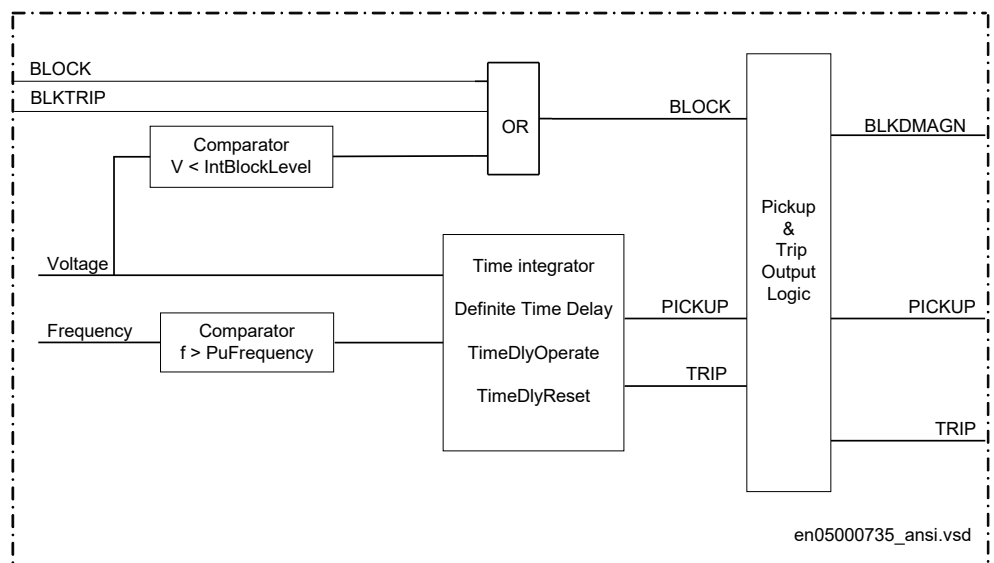

Figure 107: Schematic design of overfrequency protection SAPTOF (81)
The design of overfrequency protection SAPTOF (81) is schematically described in figure 107.